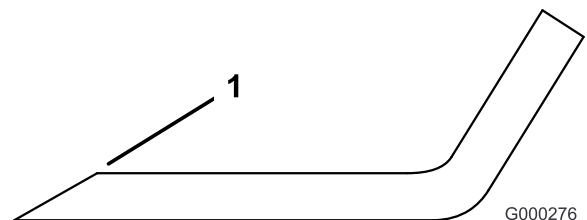

Figure 60
1. Use a file to sharpen the cutting edge at both ends of the blade (Figure 60).